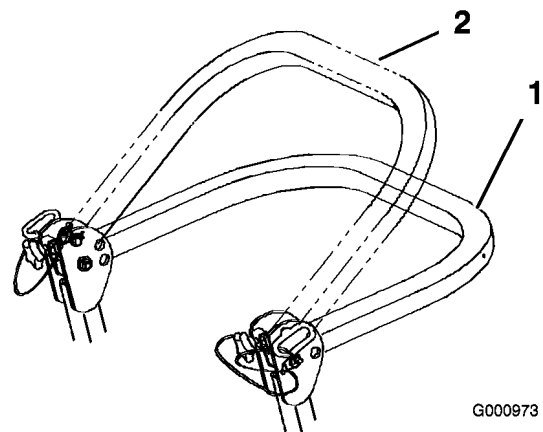

Figure 7
3. Lower the roll bar to the down position. There are two down positions. See Figure 7 for the positions.